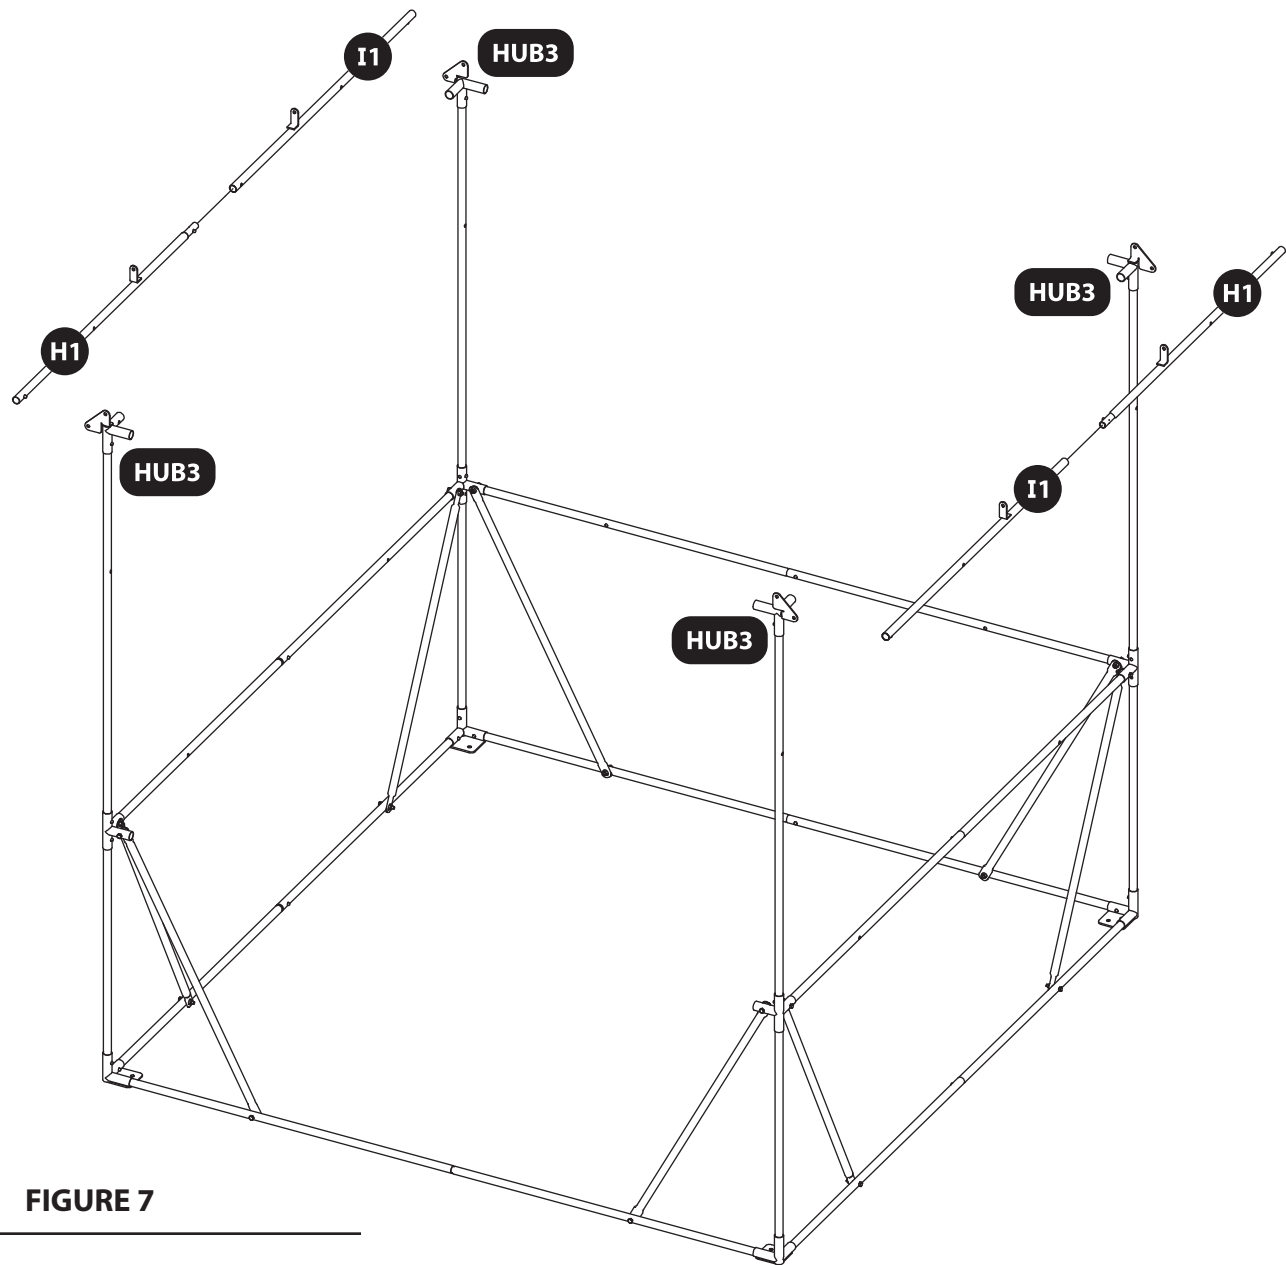

FIGURE 7
14. Slide the two H1 poles into the two I1 poles so that snap buttons secure pieces together. **SEE FIGURE 7.**
15. Slide assembled H1 and I1 poles into HUB3 corners so that snap button secures pieces together. *PAY ATTENTION TO ORIENTATION OF TABS ON H1 AND I1 POLES SO THAT THEY POINT UPWARD.* **SEE FIGURE 7.**